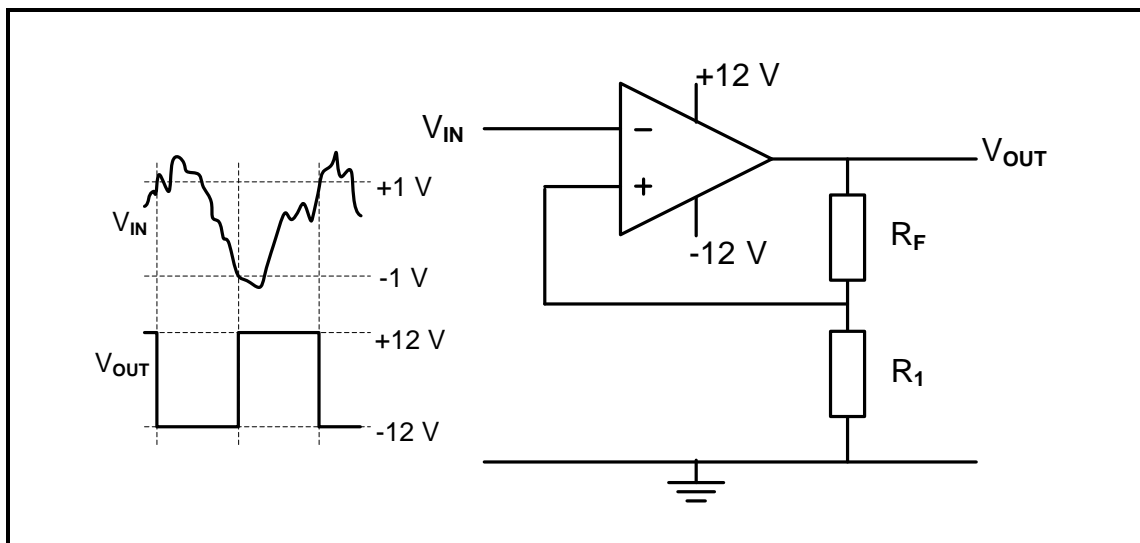

FIGURE 3.3: INVERTING SCHMITT TRIGGER
3.3 Refer to FIGURE 3.3 below and answer the questions that follow.